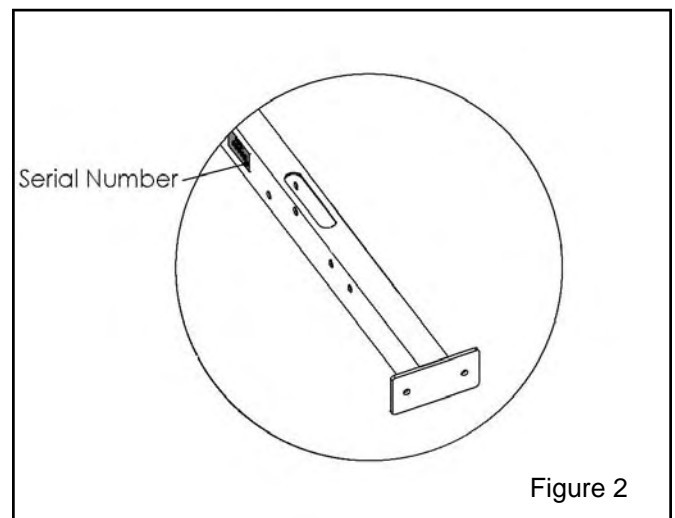

Figure 2
- **Record** your serial number on the front of this manual and keep for your records. The serial number can be found on the back side of the Back Base (2) as shown in Figure 2.